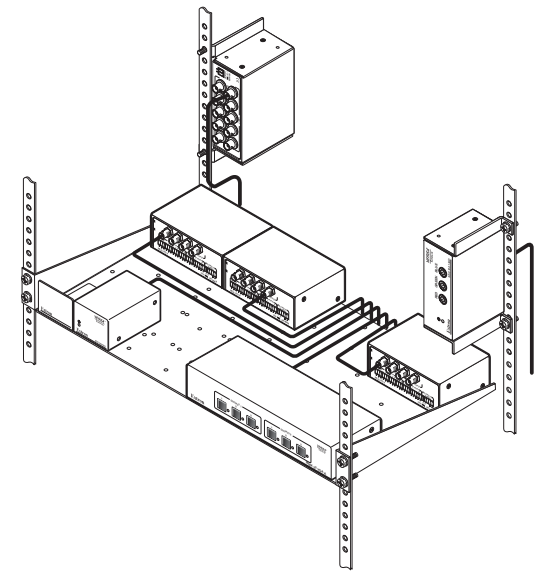

Figure 2-5 — Mounting the YCS 100 to a back rack support
5. Mount the unit to the rack support, using the two included rack screws (see figure 2-5, below).